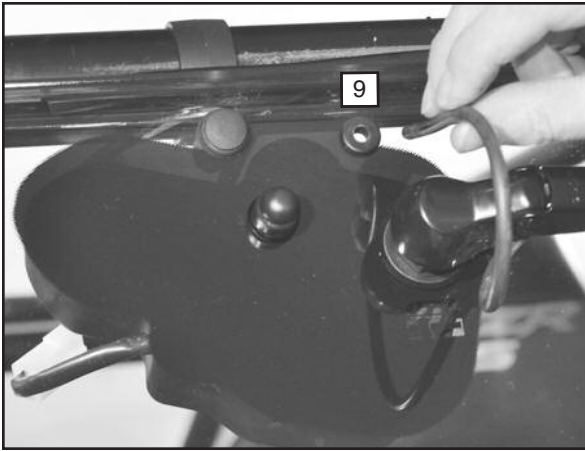

Figure 14
Install grommet (9) into the hole for the washer hose. **Figure 14**